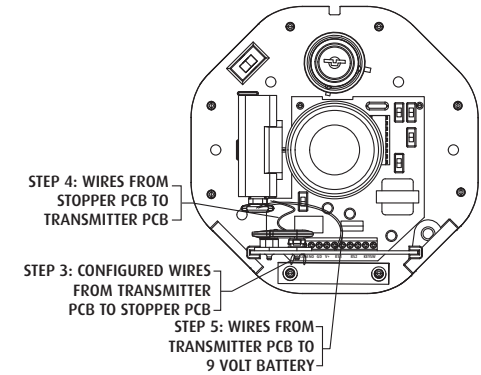

Figure 3
- (Fig. 3) Attach 9 Volt connector wires from Stopper PCB to transmitter PCB.